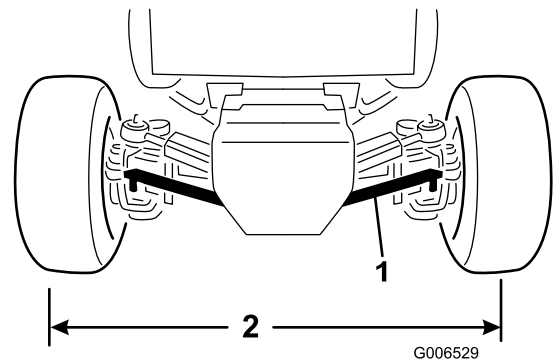

Figure 58
2. Remove nuts securing one tie rod ball joint to the mounting bracket on the axle and disconnect the ball joint from the axle (Figure 58).
4. Rotate the tie rod ball joint in or out until the center-to-center distance at front and back of rear wheels is the same (Figure 58).